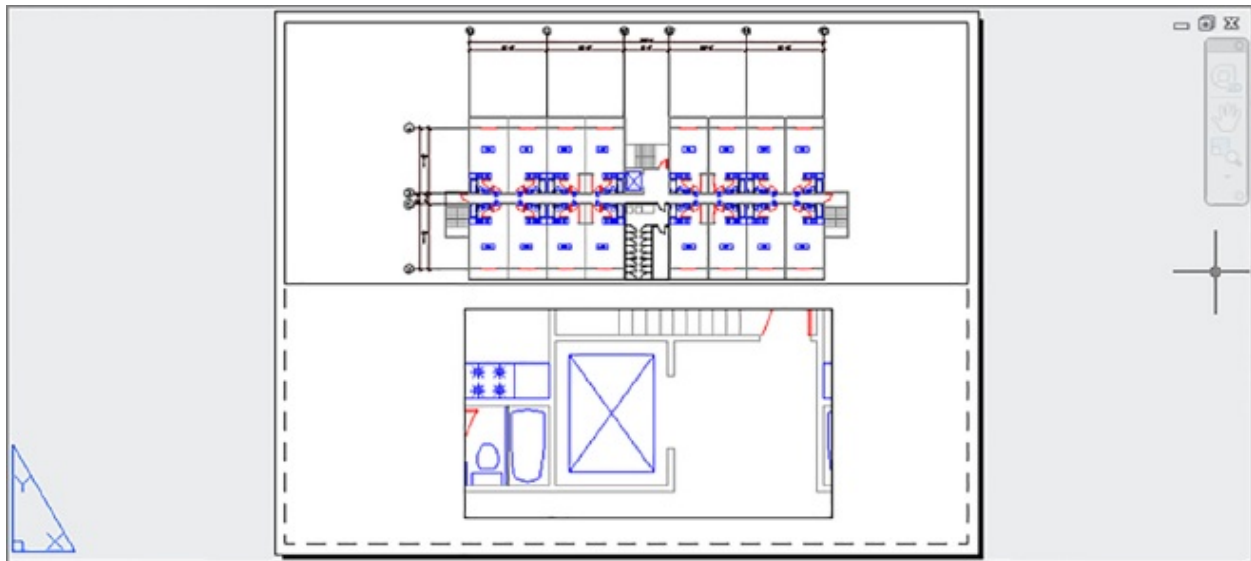

FIGURE 15.10 Paper space viewport views scaled to $1/32'' = 1'-0''$ and $3/16'' = 1'-0''$ (1:400 and 1:80 for metric users)
6. Click the Viewport Scale drop-down list again, and select 3/16" = 1'-0" from the list. Metric users should click Custom and add a custom scale of 1:80 and then select the 1:80 scale from the Viewport Scale drop-down list. The view in the viewport changes to reflect the new scale (see Figure 15.10).